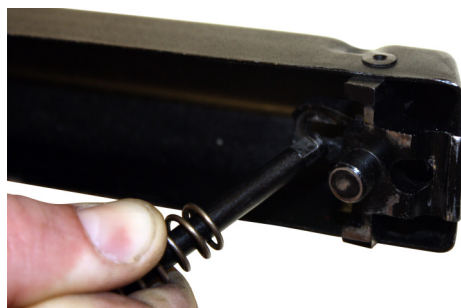

Figure 2. Compress the Rear Recoil Spring.
2. Compress and hold the rear recoil spring against the guide rod bushing. Refer to Figure 2.